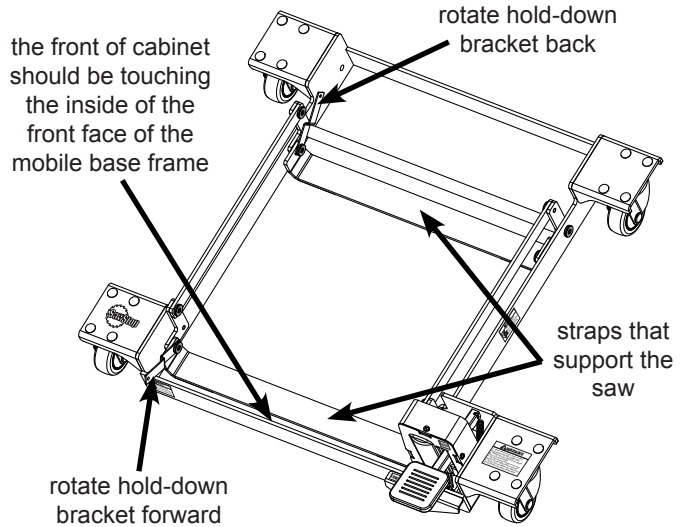

Fig. 8
8. The mobile base is now ready for your Professional Cabinet Saw, but before placing the saw on the mobile base, it is important to rotate the rear hold-down bracket back as far as possible and to rotate the front hold-down bracket forward as far as possible (see Fig. 8). To safely place the saw into the mobile base, you will need at least four people to lift the saw off the floor and then lower it onto the mobile base. Have one person lift each corner of the cast iron table top. If your saw has an extension table, have the two people on the right side of the saw lift on the extension rails near the outer corner of the cast iron extension wing, not at the end of the extension table. If a fifth person is available, it may be easier to have four people lift the saw and the fifth person slide the base under the saw.
Make sure the mobile base is centered underneath the table saw and that the foot pedal is in the front. The saw should sit on the front and rear support straps extending across the interior of the mobile base, and the front of the cabinet should be touching the inside of the front face of the mobile base frame (see Fig. 8).